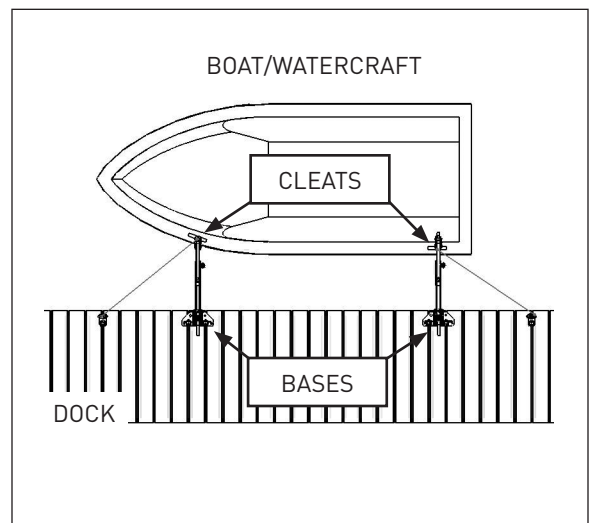

Figure 2
Position your boat/watercraft next to the dock or pier. Using the Pier Tender base and mounting holes as a template, carefully mark the four square holes with a pencil making sure that all four mounting holes are on a board and not over a slot in the dock or pier (**Figure 2**).
**NOTE:** The Pier Tenders should be mounted adjacent to the bow and stern cleats on your boat/watercraft (**Figure 2**).